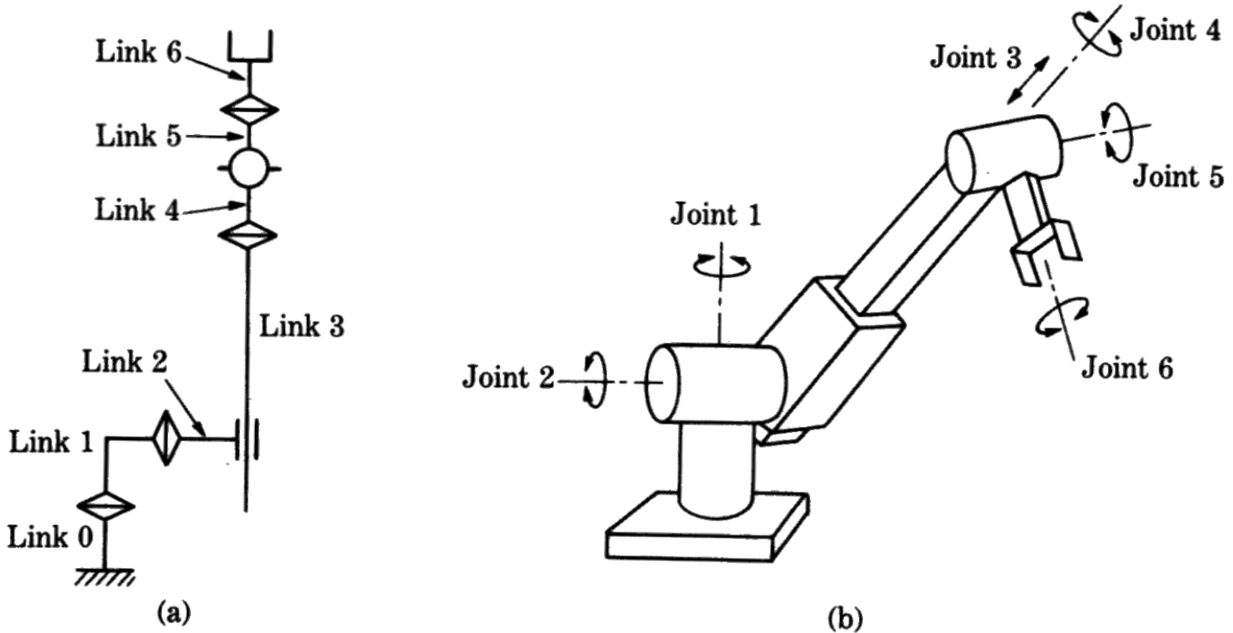

Figure 3: Stanford manipulator.
Task 2.3 (3 points) DH-Parameter Stanford manipulator: The Stanford manipulator has five revolute joints and one prismatic joint. Figure 3(a) illustrates the general idea and figure 3(b) shows the general configuration of a Stanford manipulator. Assume the distance between joint 1 and joint 2 to be d_2 . Specify the coordinate frame of each joint in the drawing and present the corresponding Denavit-Hartenberg (DH) parameters as a table.